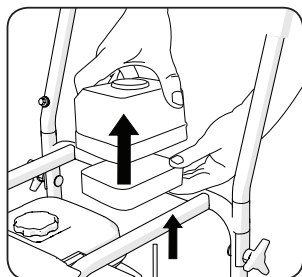

Fig 22
- Remove the Air Filter Element from the housing. **(Fig. 22)**